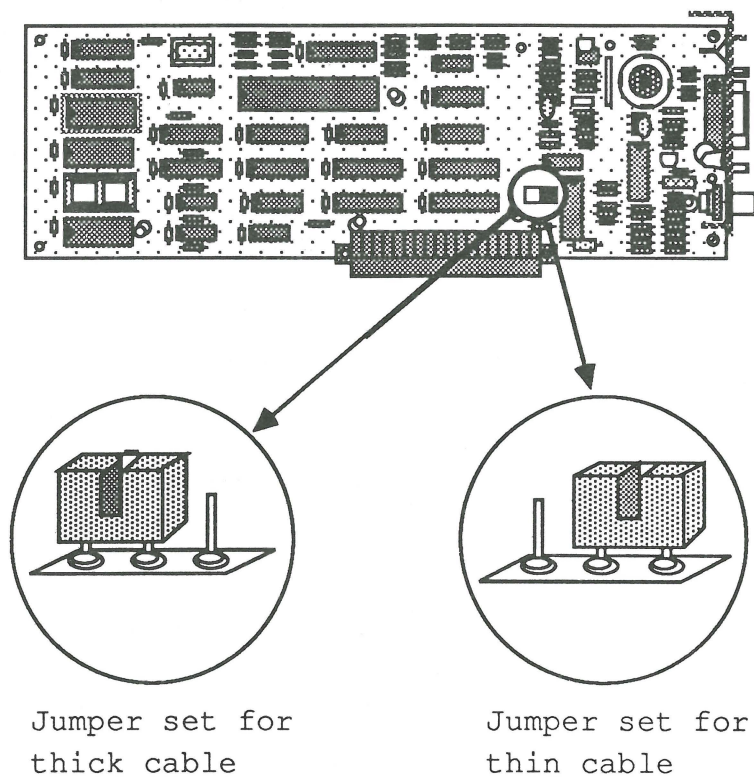

FIGURE 3
1. Locate the jumper labeled P4 (Figure 3) and see if it is set for thick cable (DIX) or thin cable (BNC).